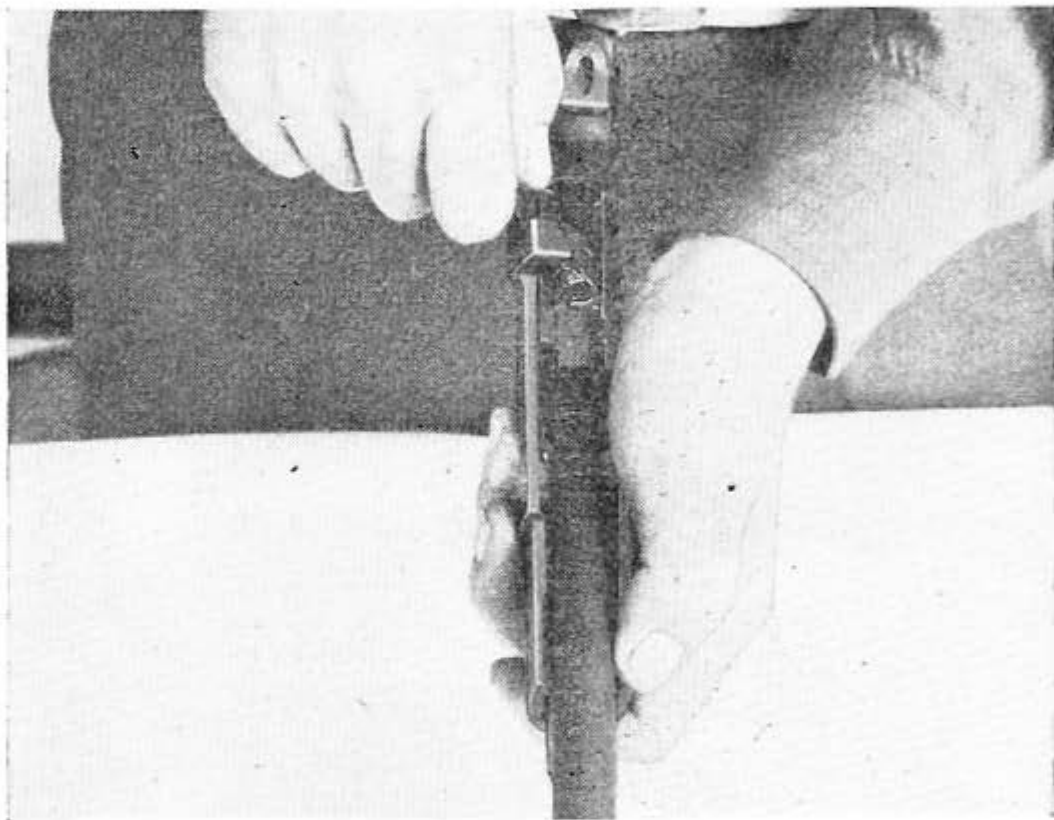

FIGURE 9.—Removing the operating slide.
(7) *Operating slide* (see fig. 9).—Rest the barrel on a level surface, muzzle to the front, receiver down. Hold the rear end of the receiver against the body with the left hand, thumb resting on top of the left side of the operating slide. Grasp the operating slide handle with the thumb and forefinger of the right hand and draw the slide slowly to the rear until the lug on the inner side of the rear end of the slide is opposite